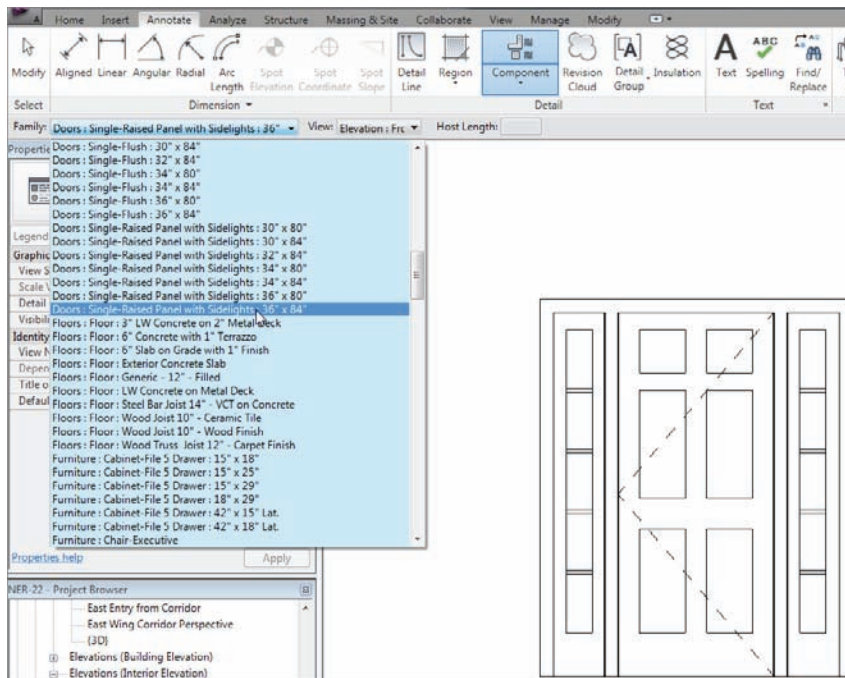

FIGURE 11.42 Changing the options for the legend
3. In the Options bar, choose Doors : Single - Raised Panel with Sidelights : $36" \times 84"$, as shown in Figure 11.42.